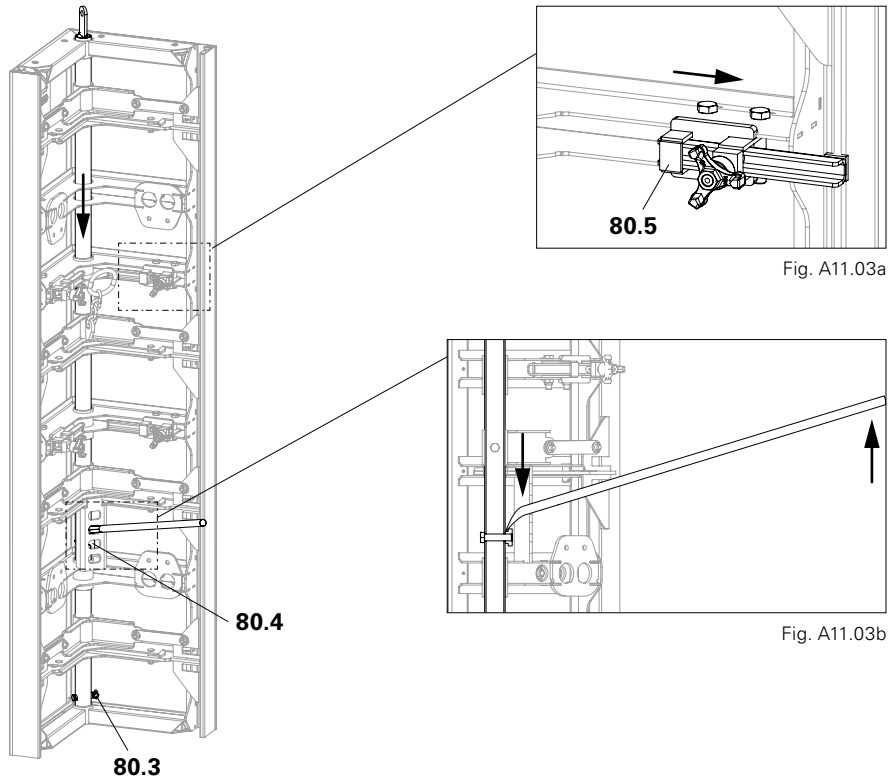

Fig. A11.03
2. Push the slider of the positioning waler (80.5) over the profile until there is a flush fit - 4x. (Fig. A11.03 + A11.03a)